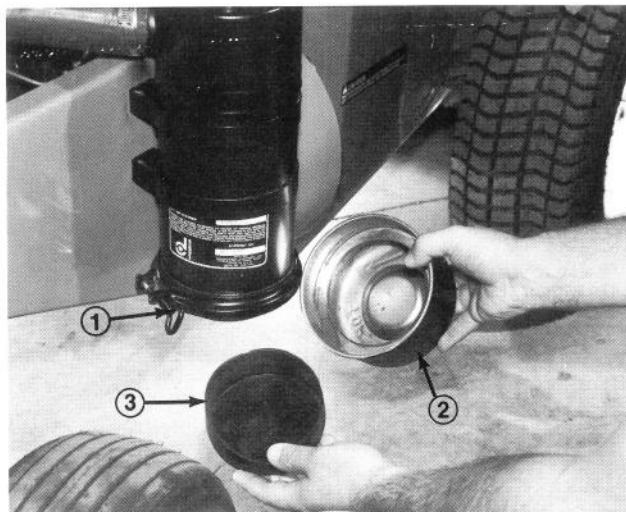

Figure 41
1. Loosen thumb screw until dust cup and baffle can be removed (Fig. 41). Separate dust cup and baffle (Fig. 41).